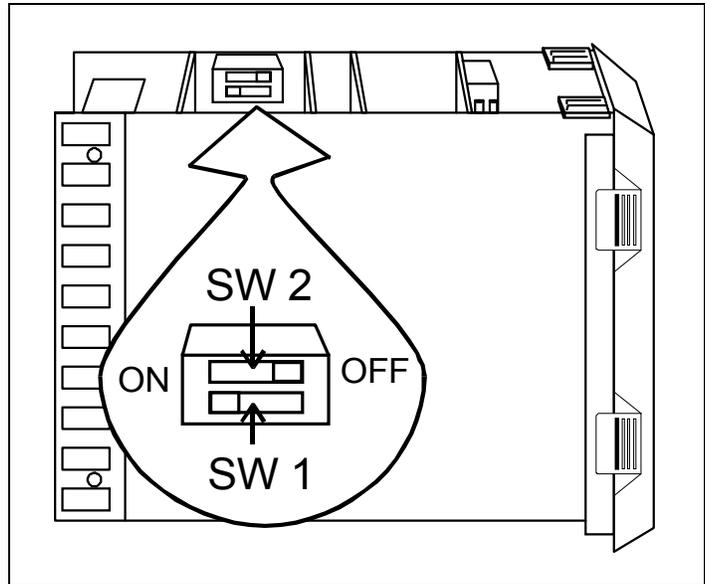

Figure 2-7
4. Looking at the top and left side of the controller module, locate the red DIP switches indicated in Figure 2-7. Use your fingernail or a small screwdriver, to turn *off* SW 2 by moving the white toggle towards the front of the module as shown in the illustration.
15. Looking at the top and left side of the controller module, locate the red DIP switches indicated in Figure 2-7. Use your fingernail or a small screwdriver, to turn **on** SW 2 by moving the white toggle towards the rear of the module as shown.